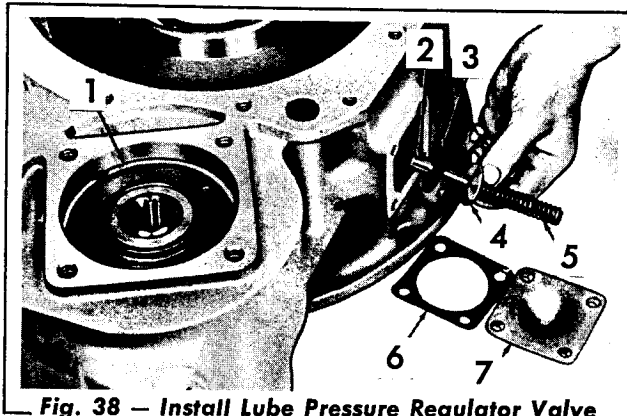

Fig. 38 — Install Lube Pressure Regulator Valve and Implement Pump Gear Snap Ring
2. Install the implement pump gear snap ring (Fig. 38). Install as a unit, the pin, the washer, the lube valve, and the spring. Install the gasket and the cover. Secure the cover with the lockwashers and capscrews.